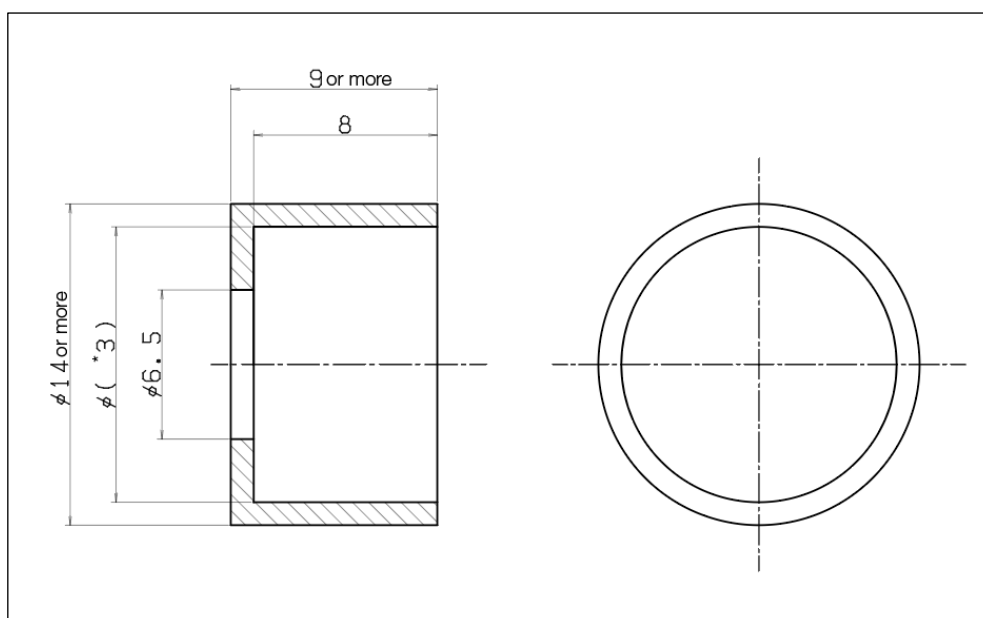

Figure 4: Design 2-2 of Wide Metal Housing One-Way Clutch Fitting Section
**Design 2-2:** When using a metal housing with a width of 9 mm or more, design with reference to the diagram below (Figure 4).